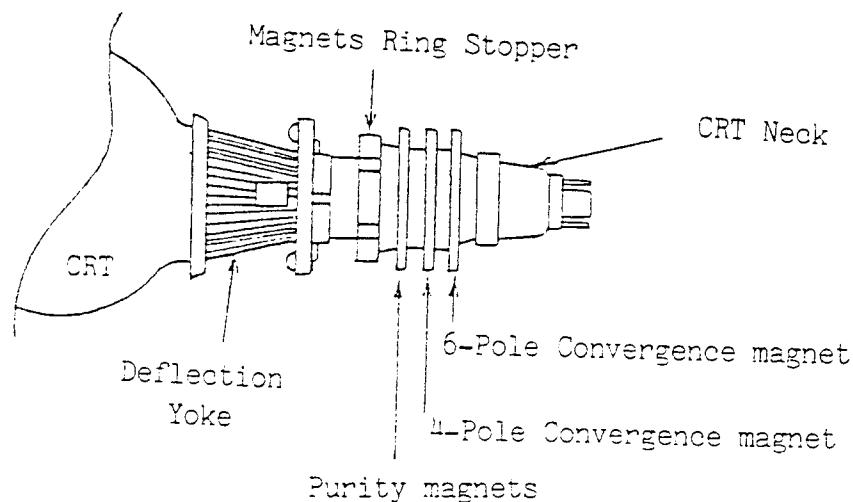

Fig 4-2
- (1) Apply the crosshatch pattern to the display.
- (2) Adjust the BRIGHTNESS and CONTRAST controls for will defined pattern.
- (3) Refer to the structure of picture tube (See Fig 4-2) to make sure the relative position of the convergence magnet.